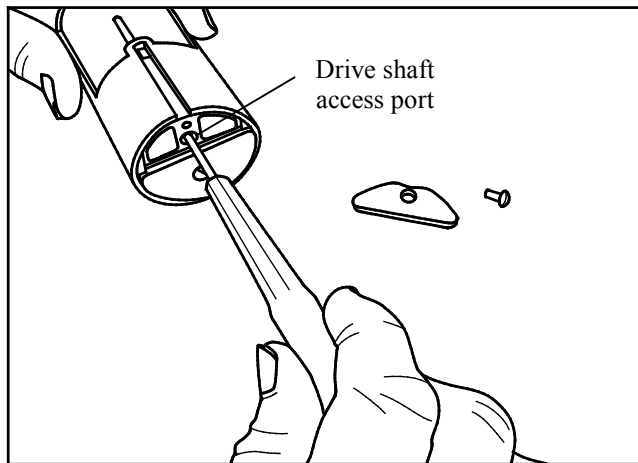
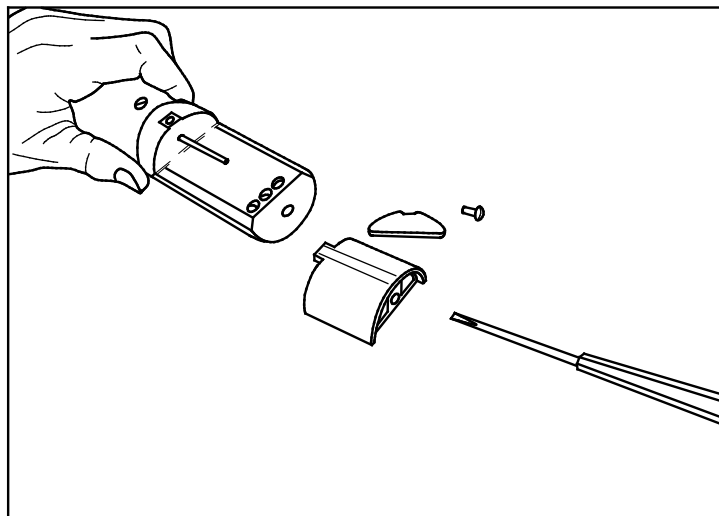

FIGURE 7-10. Insert screwdriver and rotate clockwise
FIGURE 7-11. Shutter disassembled
3. Insert a slot screw driver (2.5 mm (0.1 in.) wide blade) into the access port (FIGURE 7-10).
4. Engage the end of the drive shaft and then rotate clockwise until the shutter is free (FIGURE 7-10 and FIGURE 7-11).